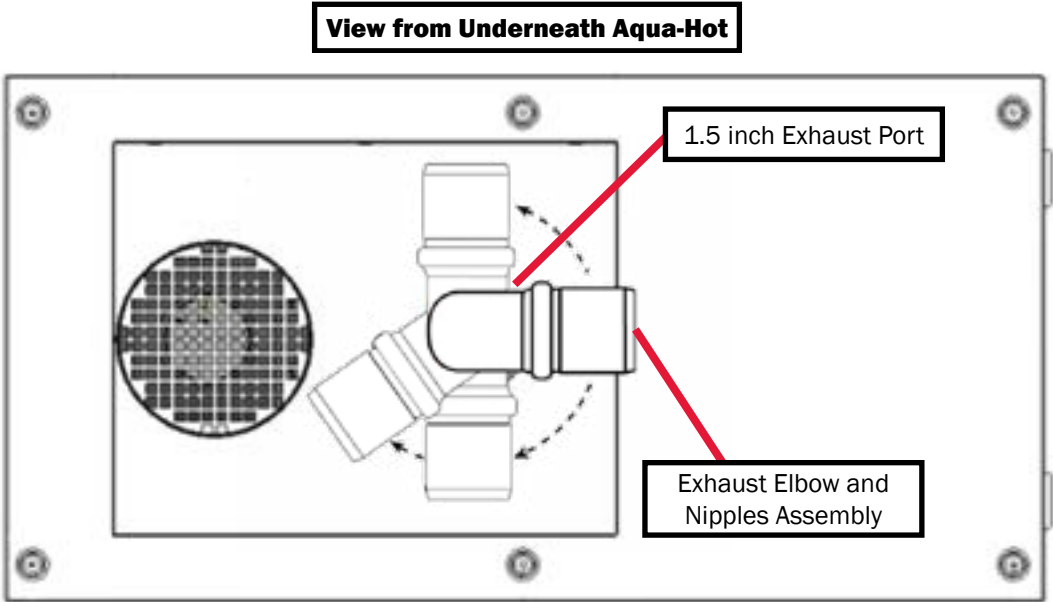
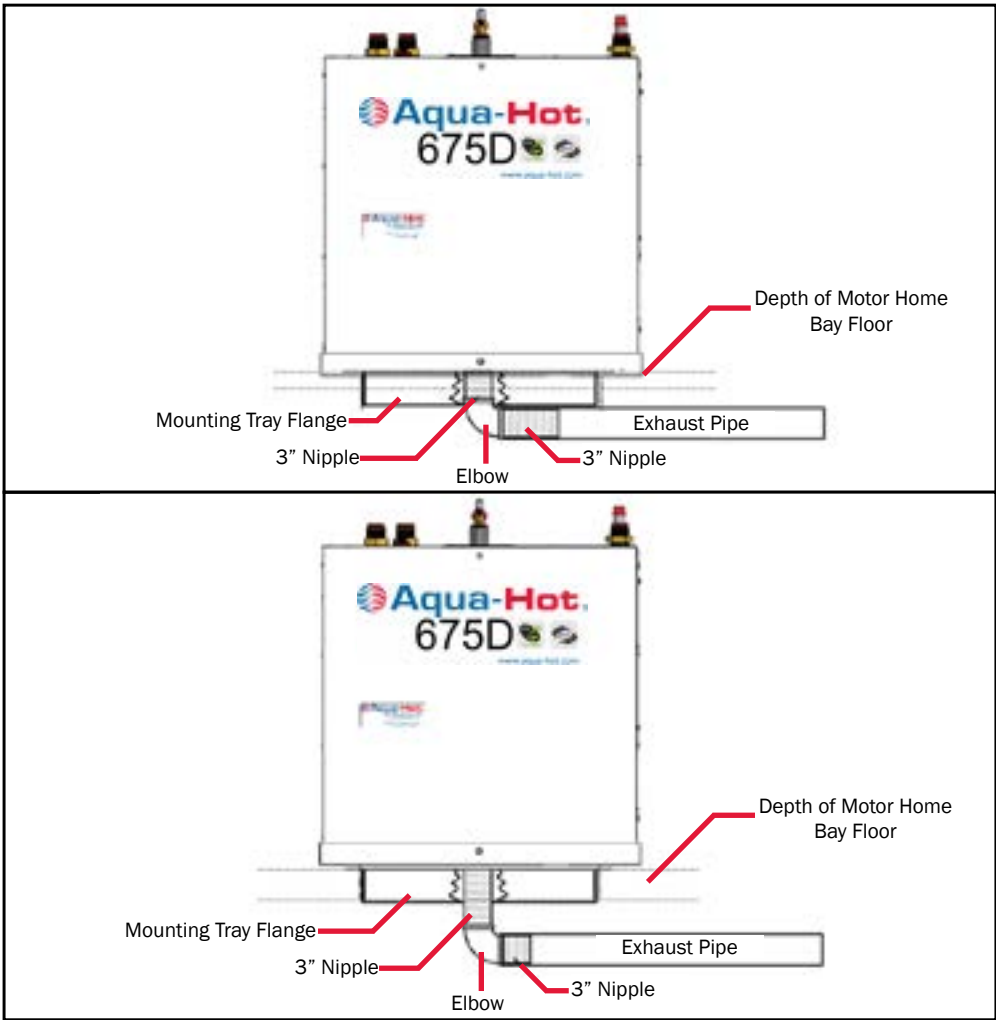

Figure 18
Figure 19
- Angle the exhaust pipe towards the rear of the vehicle, so that exhaust fumes will naturally move away while the vehicle is in motion. See Figure 18.
- The Aqua-Hot is supplied with a 3 inch and 4 inch black pipe nipple (1.5 inch diameter) along with a 1.5 inch exhaust elbow. Reference Figure 18. These three exhaust system components **MUST BE** utilized with all product installations. Be sure to reference Figure 19 and 20 to determine which exhaust nipple should be connected directly to the Aqua-Hot's exhaust port (the 3 inch of the 4 inch black pipe nipple).